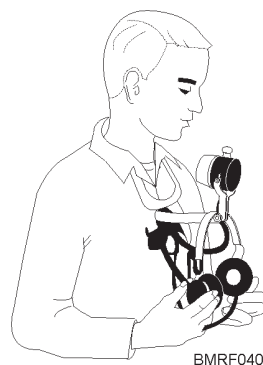

Figure 4-3.—Hanging the headset on the yoke.
2. Remove the headset and hang it over the transmitter yoke, as shown in figure 4-3.